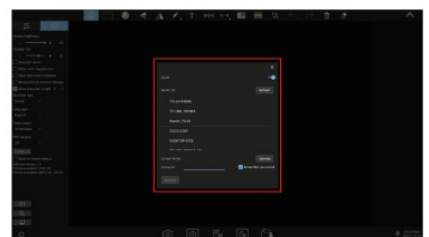

Figure 3
- (4) Select a local area network (Figure 3), enter password and click “Connect” button.